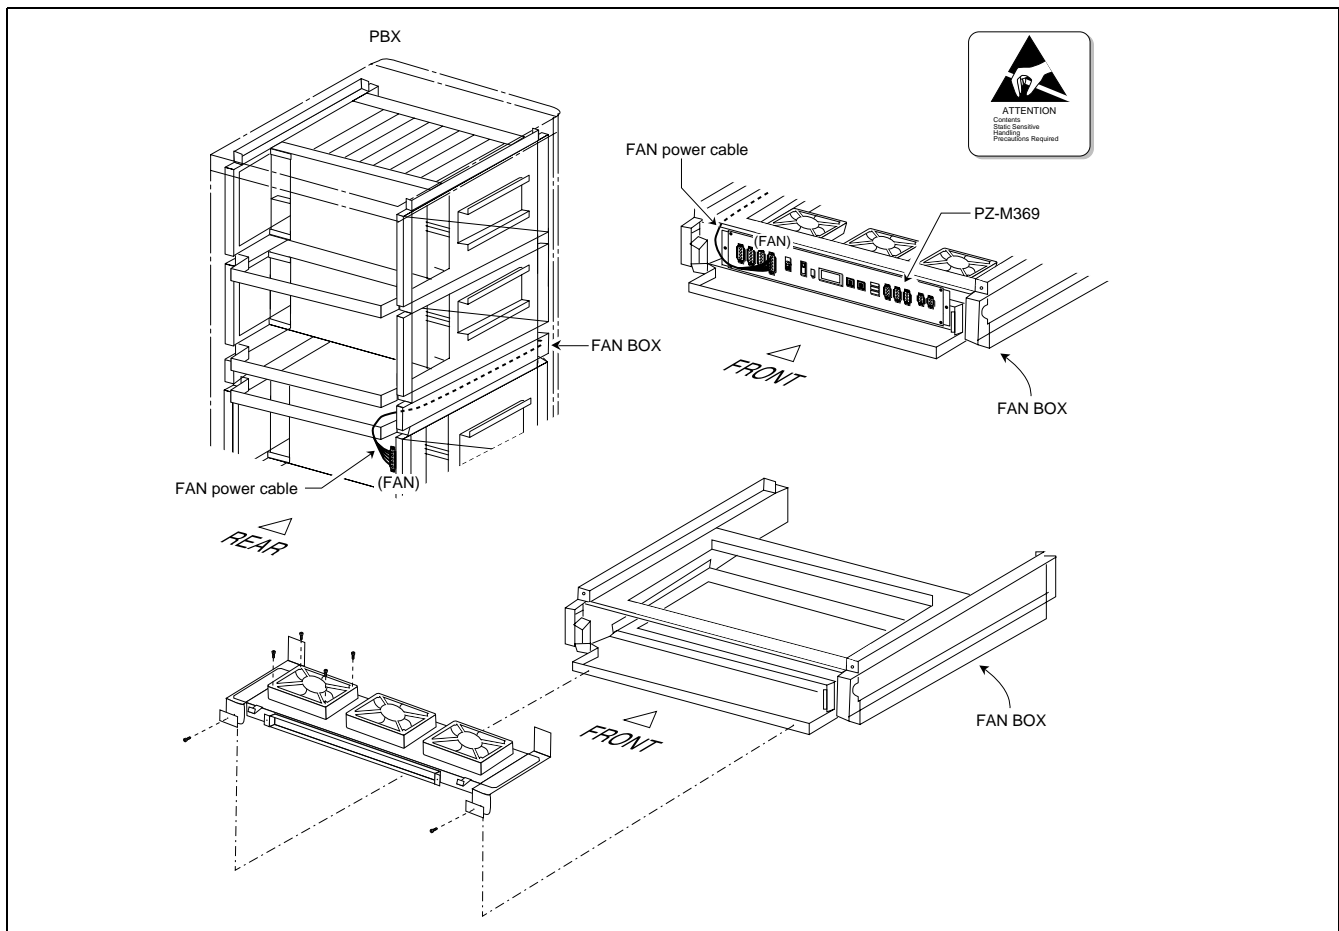

Figure 4-23 How to Replace FANU (Fans in Fan Box)
STEP 5 Take off the four screws fastening the fan to be replaced. (Refer to Figure 4-23.)